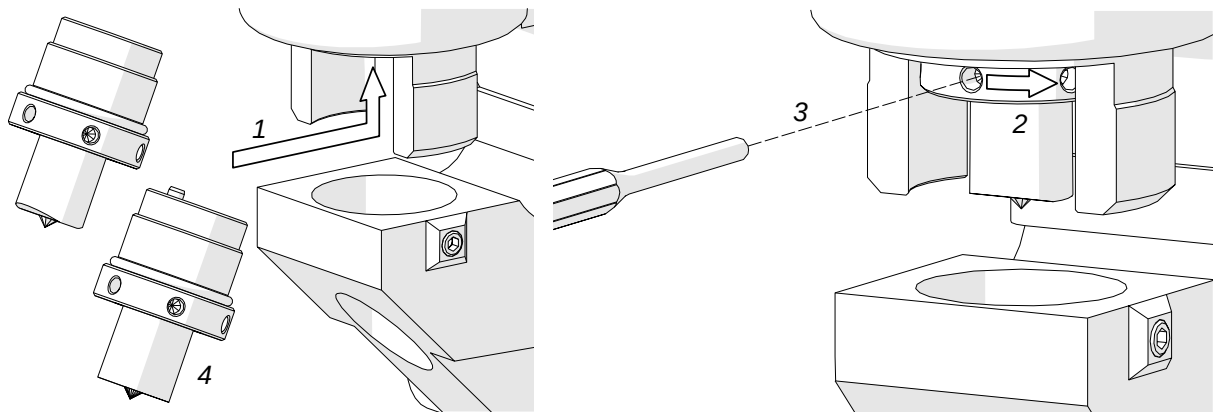

Fig. 5. Installing the punch
Set the power ON/OFF switch to the position 'O'. Then, insert the nut joined with the punch into the machine (1, Fig. 5), and screw the nut manually in the direction 2. Next, insert the wrench into the hole (3) and lock the nut by rotating the wrench in the same direction. If an oblong punch 4 is used, before locking the nut the punch pin must snap into the socket, which will be indicated by a snap sound.
Mount the punch as shown in Fig. 5.